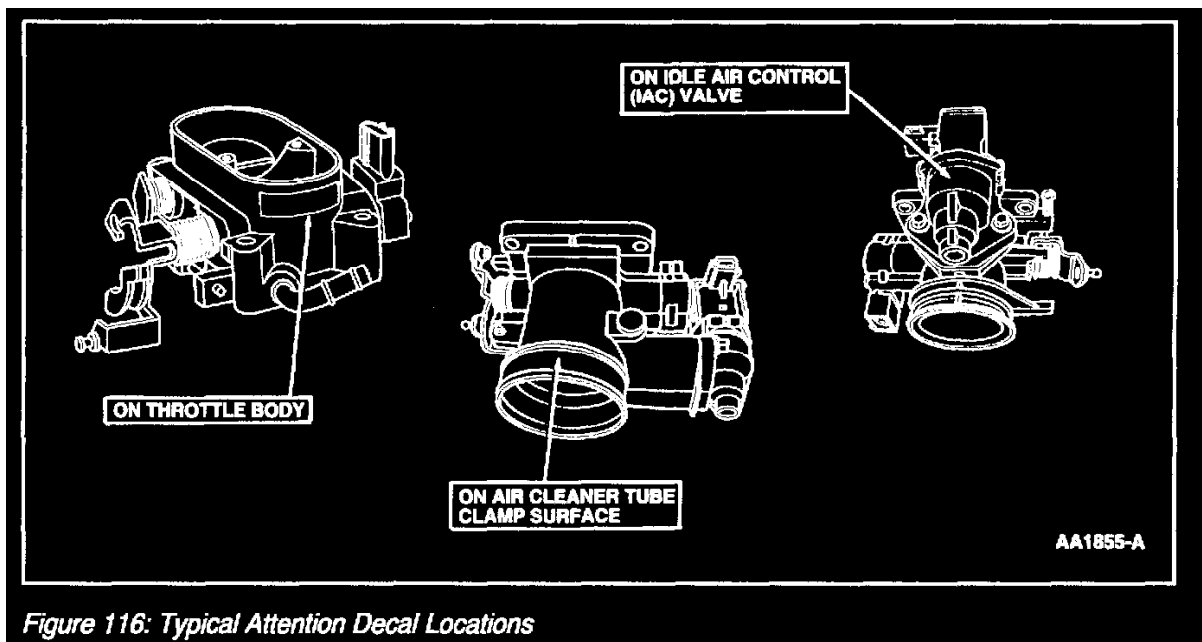

Figure 116: Typical Attention Decal Locations
7. A sealant/coating on the throttle bore and throttle plate makes the throttle body air flow tolerant to engine intake sludge accumulation. These throttle body assemblies **MUST NOT BE CLEANED** and have a white/black attention decal (Figure 116) advising not to clean.